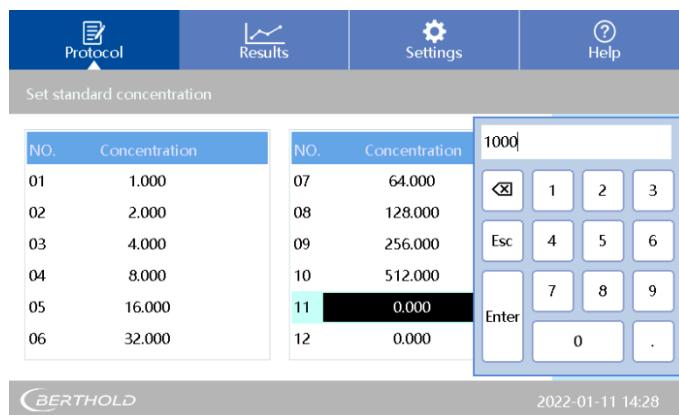

Fig 20: Set standard concentrations
2. Click the concentration number twice to input the concentration value. Confirm your input with <Enter>. See Fig 20.